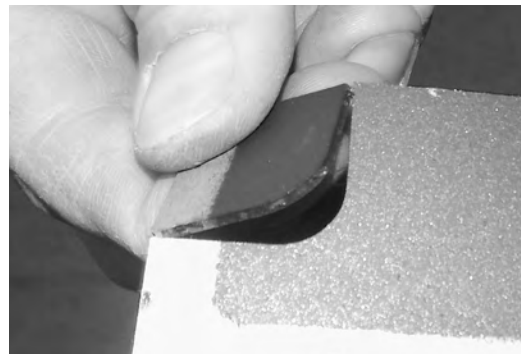

Figure 3: Ped Brace knockout.
1. Remove the Ash Drawer Front Cover Plate by removing the center screw(1) and lifting up to disengage the bottom tab.
2. Remove the two screws (2) holding the Pedestal Brace. Remove the brace
4. Break off the corner tab of the Pedestal Brace with pliers. See "Figure 3: Ped Brace knockout." on page 12
1. Remove the two screws holding the Leg Ash Box Brace (2). Remove the brace
3. Break off the corner tab of the Pedestal Brace with pliers See "Figure 3: Ped Brace knockout." on page 12